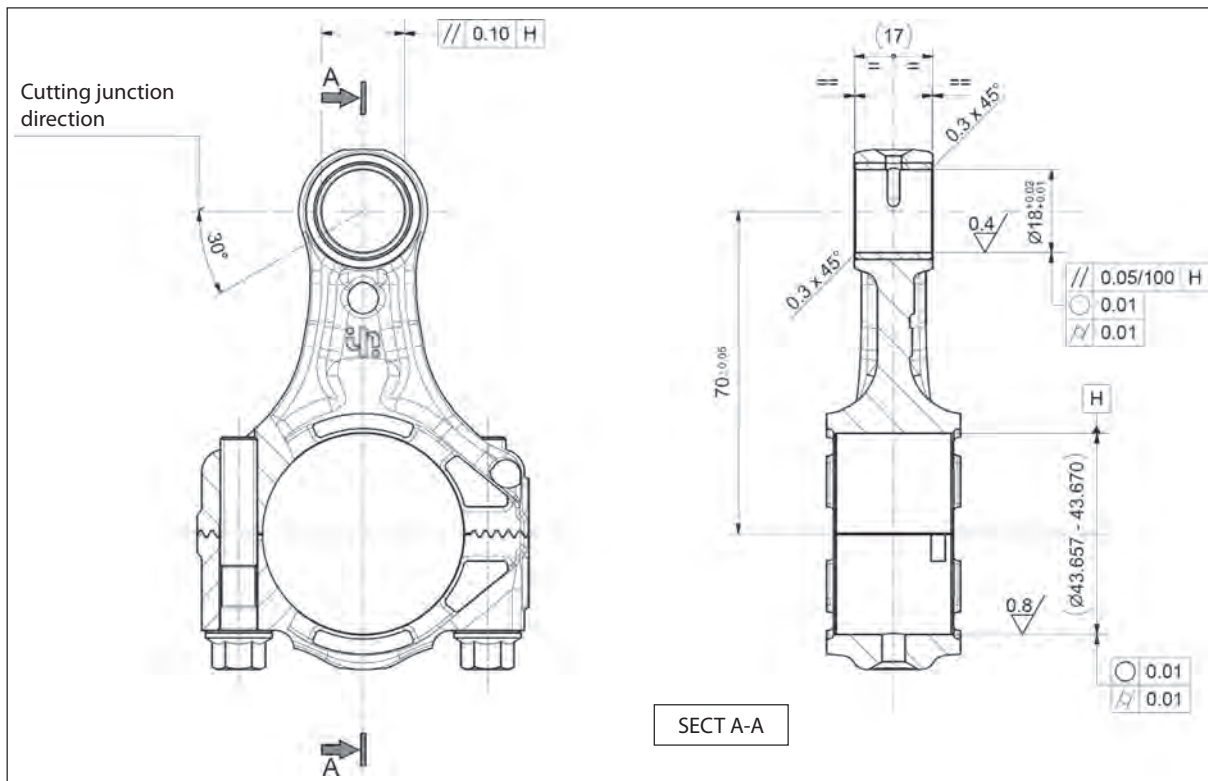

Fig. 25
- the cutting junction is directed as shown in Fig. 25.
Then perform mechanical processing. The dimensions and tolerances shown in Fig. 25 **MUST** be respected.